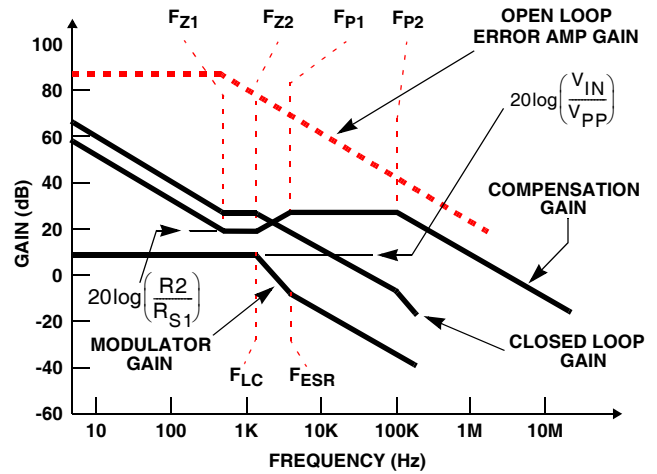

FIGURE 7. ASYMPTOTIC BODE PLOT OF CONVERTER GAIN
Figure 7 shows an asymptotic plot of the DC/DC converter's gain vs. frequency. The actual Modulator Gain has a high gain peak dependent on the quality factor (Q) of the output filter, which is not shown in Figure 6. Using the above guidelines should yield a Compensation Gain similar to the curve plotted. The open loop error amplifier gain bounds the compensation gain. Check the compensation gain at F_{P2} with the capabilities of the error amplifier. The Closed Loop Gain is constructed on the log-log graph of Figure 10 by adding the Modulator Gain (in dB) to the Compensation Gain (in dB). This is equivalent to multiplying the modulator transfer function to the compensation transfer function and plotting the gain.